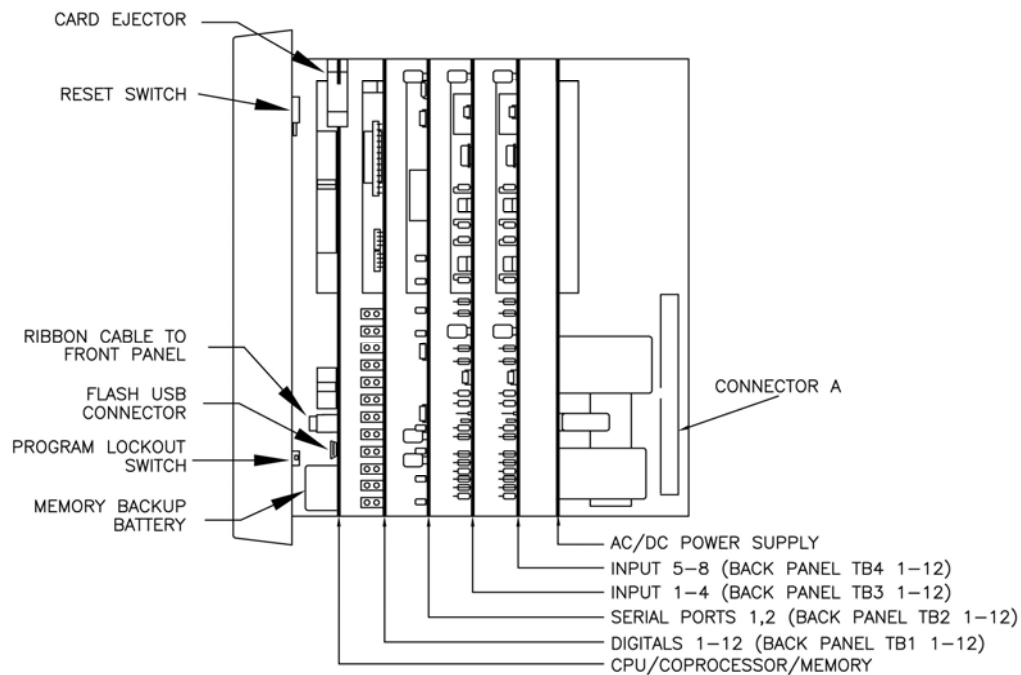

Figure 1. OMNI 3000 Layout
- Open the OMNI Flow Computer (**CAUTION:** these units have an integral cabinet latching mechanism which first must be disengaged by lifting the bezel upwards before withdrawing the inner chassis from the case) and remove the CPU module. (Figures 1 and 2 for the location of the CPU module). Please use caution when extracting the CPU module as the ribbon cable connecting it to the front panel could be damaged.
- Make sure the “Program Lockout Switch” (lower red switch), located on the rear face of the front panel is in the “Program Enabled” position (Figures 1 and 2 for location).
- Press the “Reset” switch (upper red switch), located on the rear face of the front panel (Figures 1 and 2 for location).